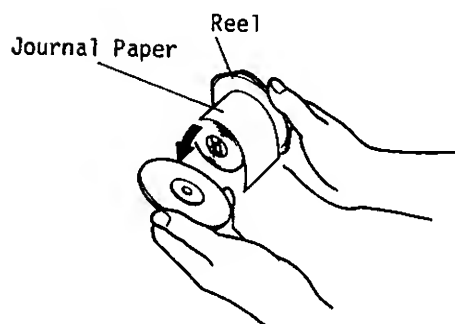

Fig. 11
3. The wound-up portion of the paper can easily be removed from the Reel by pulling it sideways. (Fig. 11)